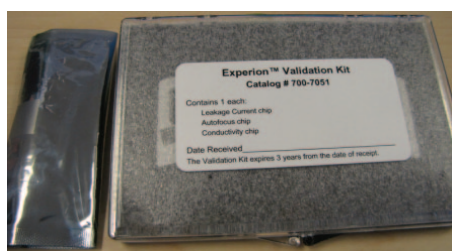

**Fig. 2. The Experion automated electrophoresis station.**
- Carefully lift the electrophoresis station (Figure 2) by grasping the underside of the unit (between the green feet) and the top of the unit